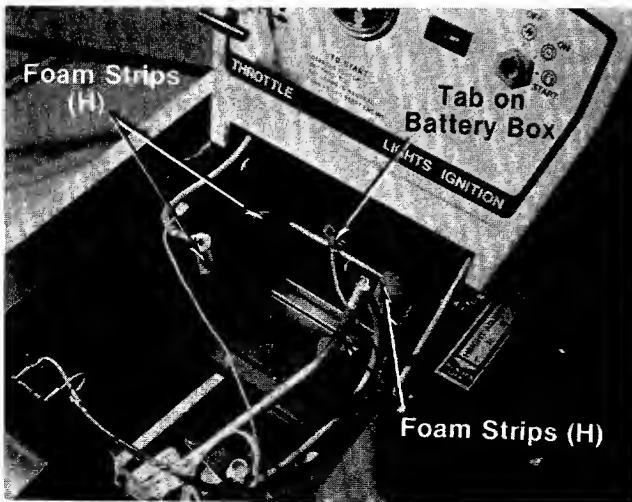
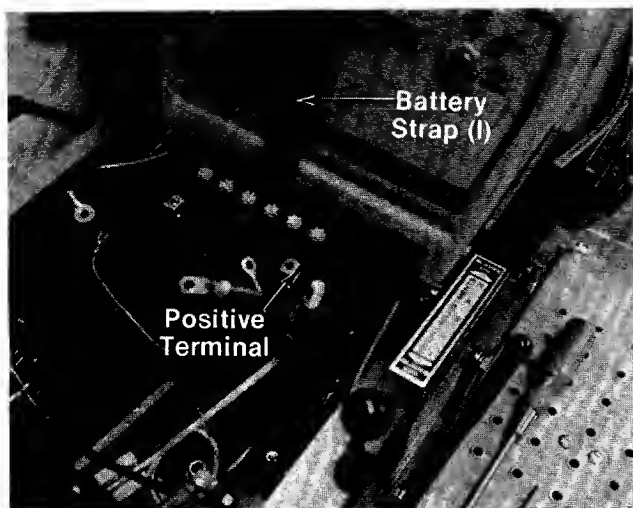

FIGURE 9.
FIGURE 10.
4. Install the four foam strips (H) into the battery box as follows.
- B. Peel the paper off the foam strips to expose the adhesive backing. Press foam strips firmly into the corners of the battery box. See figure 9.
5. Loop one end of battery strap (I) around the tab on battery box shown in figure 9. Hold the battery strap out of the way. Place the battery in the lawn tractor so that the positive terminal is facing the right side of the unit. See figure 10.